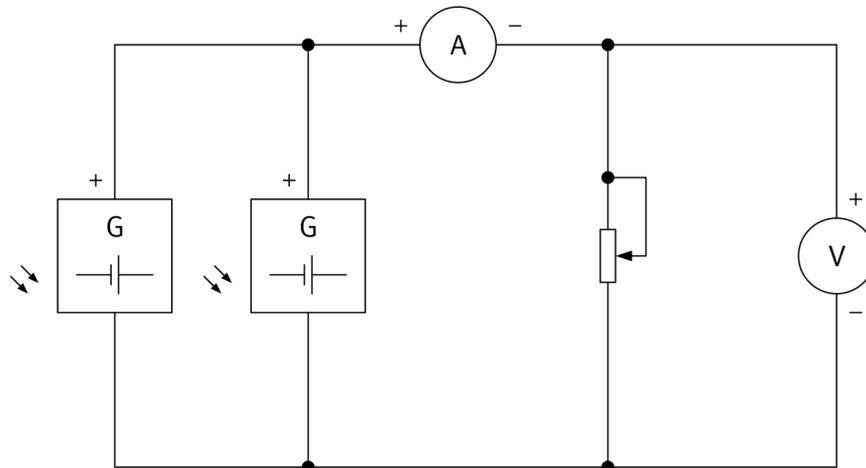

Figure 37. Circuit used to determine the characteristic U - I curve of two PV modules connected in parallel.
24. Connect the circuit shown in Figure 37.